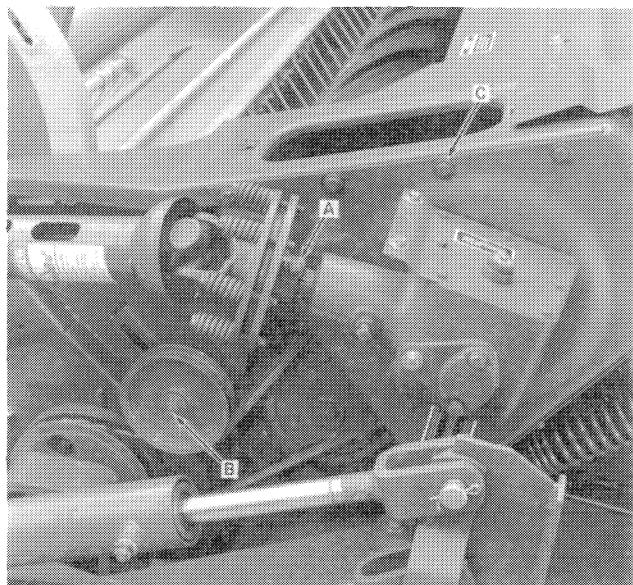
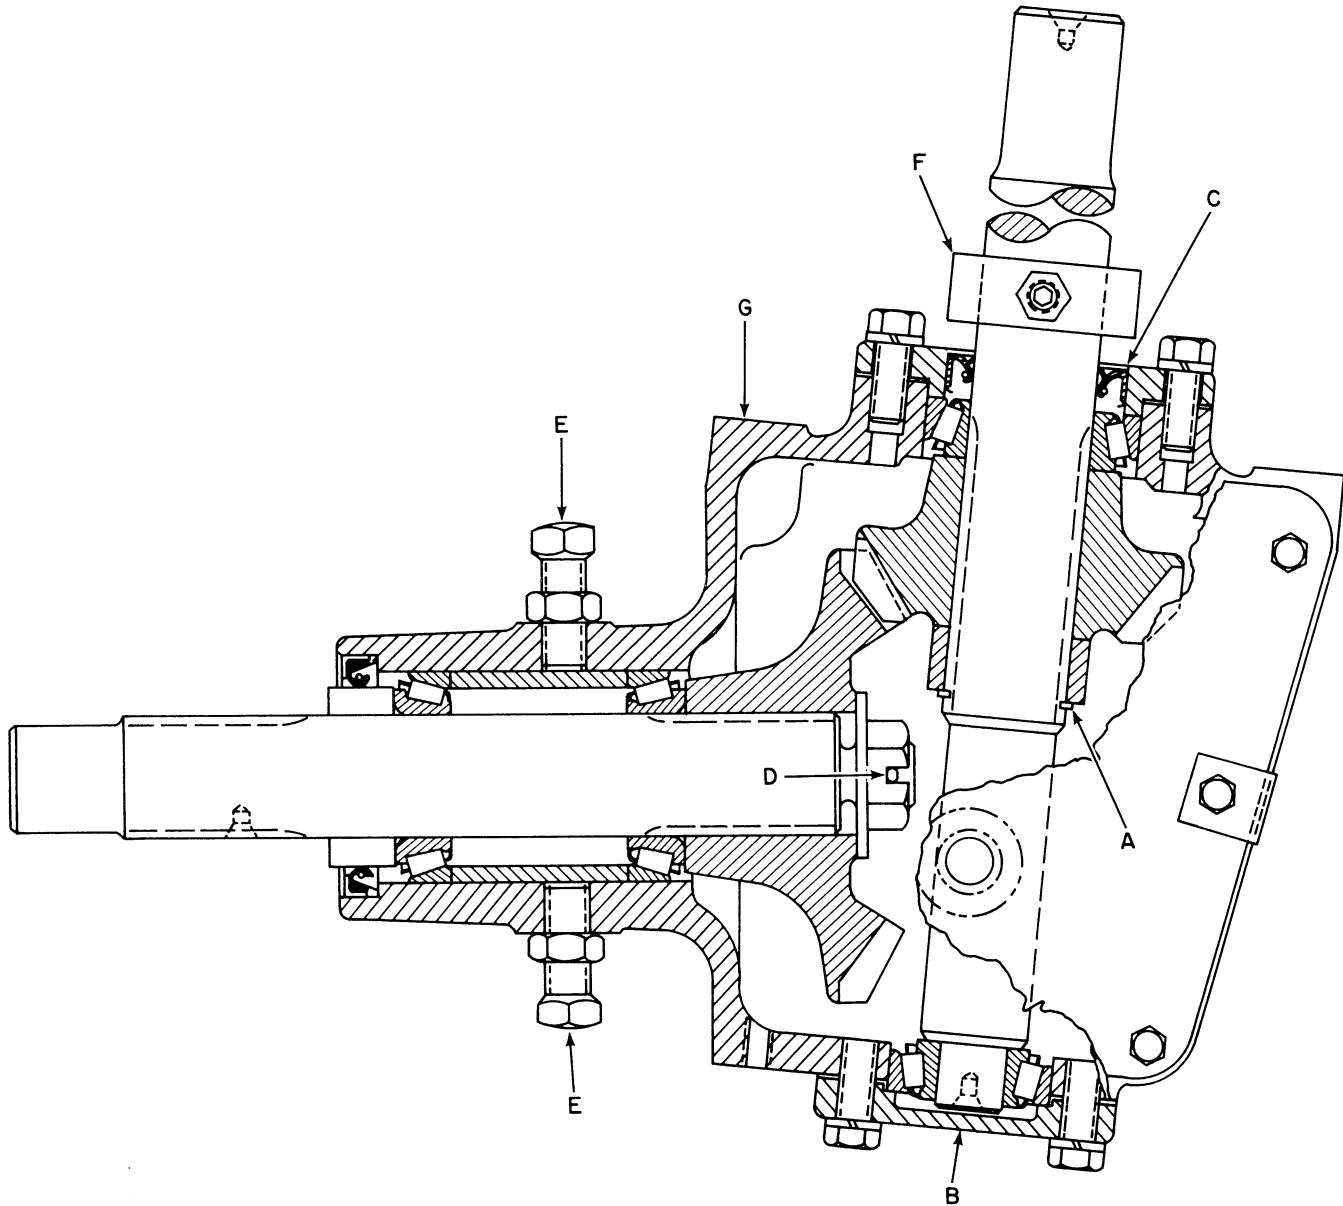

FIGURE 10
FIGURE 11
1. Remove the PTO cover as shown in Figure 10.
2. Loosen the jam nut and setscrew at A, Figure 10, and remove the slip clutch assembly from the input shaft.
4. Loosen the sickle drive belt idler, B, Figure 10, and slip the belt off the drive sheave on the gearbox output shaft.
6. Remove the gearbox mounting plate bolts, C, Figure 10. Remove the gearbox and plate as one assembly. BE CAREFUL NOT TO LOSE THE OVERRUNNING CLUTCH PINS AND SPRINGS. (Two are used on older Model 477's and four on older Model 479's.) Remove the clutch sprocket, shims, spacer, and sheave hub. Be sure to remember how the shims and spacer were installed.
with collar, F, Figure 11. On units that do not have the overrunning clutch, the hub is a part of the roll drive sprocket weld assembly.
2. Remove snap ring, A, Figure 11, from the output shaft. Remove bearing caps, B and C, Figure 11.
4. Remove cotter pin, D, Figure 11, nut and flat washer from the input shaft.
5. Loosen setscrews, E, Figure 11, and remove the shaft assembly. Remove the bearings and spacer.
1. Install the bearings and spacer on the input shaft. Install the shaft in the gearbox and install the bevel gear, flat washer, and nut. Tighten the nut to obtain 5-10 in. lbs. (0.56-1.13 N·m) torque on the bearings and shaft assembly. Install cotter pin, D, Figure 11, and the oil seal. **DO NOT TIGHTEN THE SETSCREWS.**
2. Install the output shaft, bearing cup and cone and bearing cap, C, Figure 11. Use the same number of shims used previously if the original bearing is used. If a new bearing is being used, the number of shims required must be determined. Example: if the slip of paper with the new bearing has a 12 on it, the gearbox may have "18" stamped on the lower machined surface at G, Figure 11, and the bearing cap, C, Figure 11, may have a "5" stamped on it. This means all three numbers must be added, for a total of 35. This total indicates shims must be used giving a total of 0.035". Shims are available in sizes 0.003", 0.005", 0.007", and 0.020". This method will insure that the mounting distances between the shafts and gears are correct. Use Permatex® on the bearing cap bolts.
4. The backlash between gears must be 0.004" to 0.012" at the closest point. To adjust, move the input shaft assembly as required and tighten setscrews, E, Figure 11, to 50 ft. lbs. (68 N·m) torque. Tighten the jam nuts.
5. Fill the gearbox with API GL5 80W-90 multipurpose gear lubricant to the bottom hole of bearing cap, B, Figure 11. Install the cover and clip (if 1000 RPM).
NOTE: Make sure that collar, F, Figure 11, is installed in its original position on the Models 479 and 488. Tighten all mounting plate bolts, C, Figure 10.
4. Install the slip clutch assembly. Make sure setscrew, A, Figure 10, and the jam nut are securely tightened. Install the PTO cover.